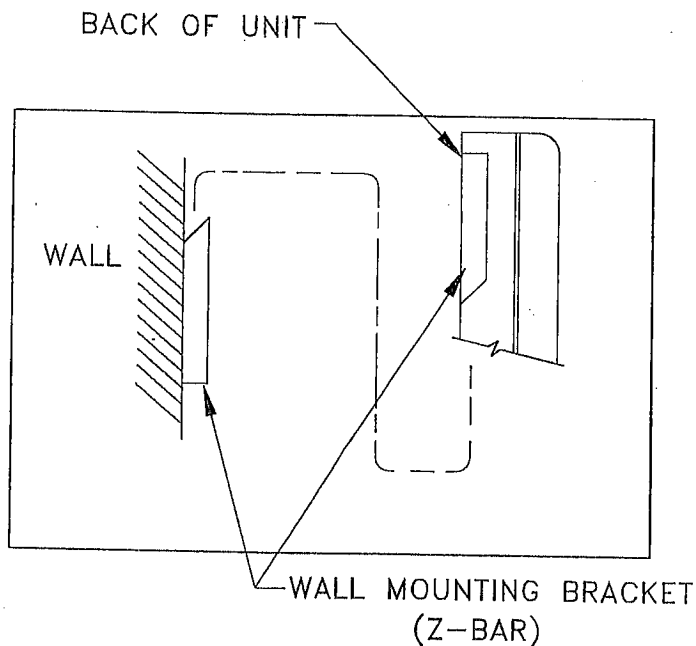

FIG. 2
6. LIFT VISUAL BOARD ASSEMBLY ABOVE MOUNTING PLATE AND LOWER INTO POSITION (SEE FIG. 2)